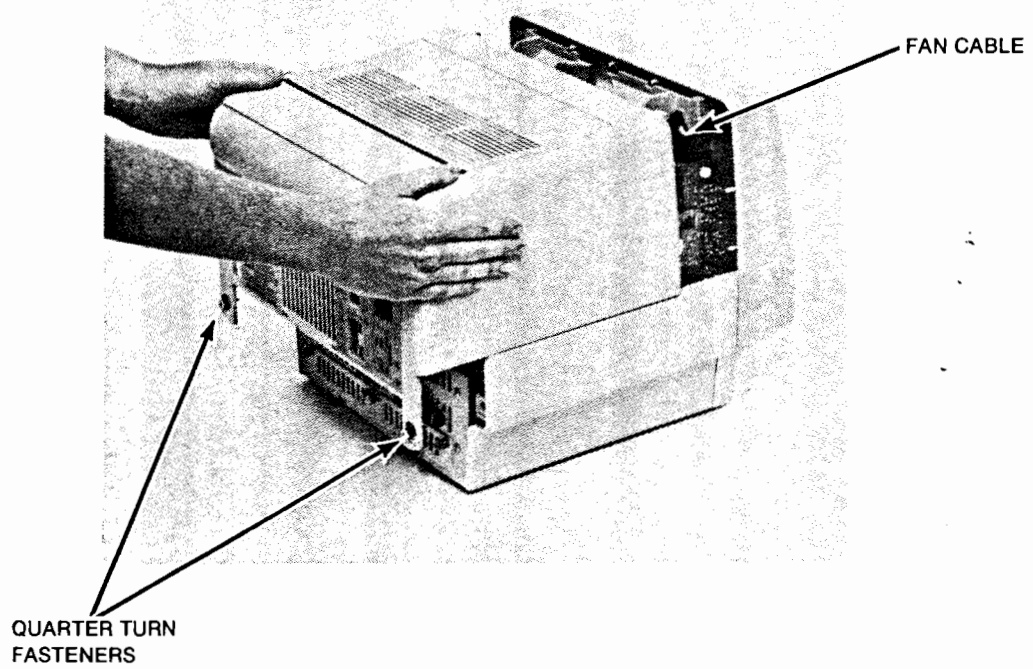

Figure 8-10. Removing the Top Cover
2. Using a small Phillips-head screwdriver, loosen the two quarter turn fasteners at the rear of the HP 150 by turning them a quarter turn counter-clockwise (figure 8-10).